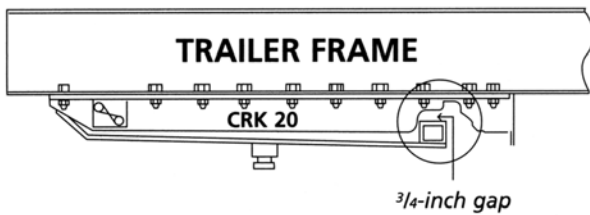
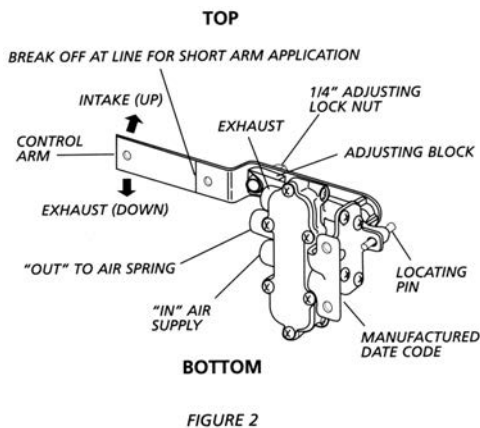

FIGURE 1
FIGURE 2
1. The $\frac{3}{4}$ -inch gap between the top and bottom plates must be checked during the normal maintenance cycle of the trailer. The spacing must be maintained for the unit to operate correctly. Refer to Figure 1, for the instructions to set that gap.
The $\frac{3}{4}$ -inch gap between the top and the bottom plates may easily be checked by inserting a $\frac{3}{4}$ -inch diameter bolt between the plates at the location circled (Figure 1). This must be done with the tractor trailer connected and the air supply to the trailer activated. If the gap is not $\frac{3}{4}$ -inch, it must be set by adjusting the height control valve, (Figure 2).
1. Loosen the $\frac{1}{4}$ -inch adjusting lock nut located on the adjusting block of the height control valve (Figure 2). This will allow the adjusting block to oscillate.
- b. The ride height must be ¾ -inch between the top and bottom plates at the rear of the unit. The location for this measurement is circled in Section 1, Figure 1.